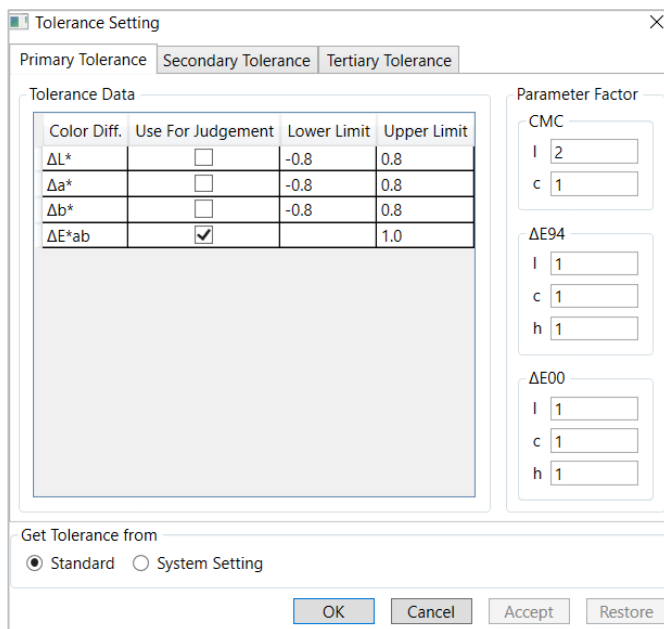

Figure 35: Tolerance setting window
- For each colour difference set the upper and lower limit (column three and four in Figure 35).